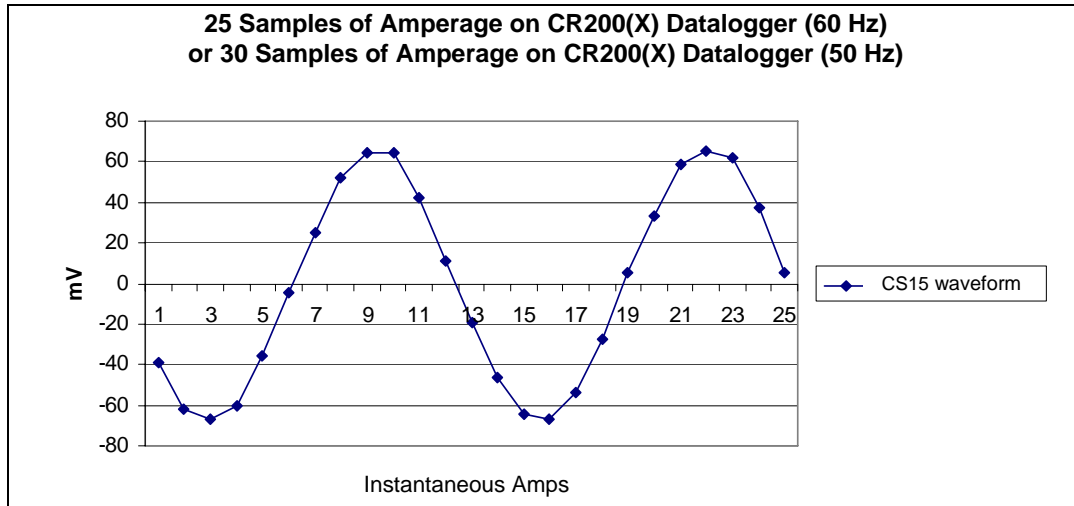

Figure 3. Graph of a CS15 Waveform
The recommended programming method for CR200(X)-series dataloggers (where the scan interval is limited to once per second) is to place the VoltSE instruction within a loop. The first CR200(X) example program has a loop that samples 25 times, and the second CR200(X) example program has a loop that samples 30 times. A 25-sample loop produces almost two cycles of a 60 Hz wave form, and a 30-sample loop produces almost two cycles of a 50 Hz wave form (see Figure 3). The average energy under the curve is calculated using the RMSSpa instruction. A multiplier of 0.2 is applied to the RMS value; see Section A.4 for more information.